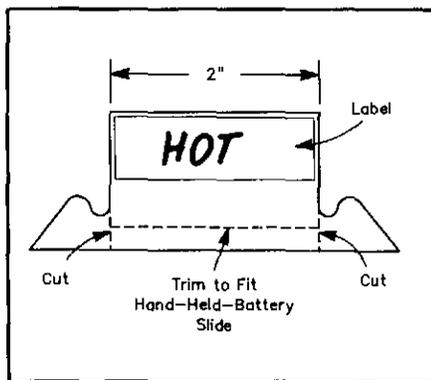

Fig 4—Greg Lane replaced his battery-protection plate with a hanging-folder tab modified as shown here. The slide-in label indicates state of charge.
□ If you're tired of looking for the slide-in plastic plate for your extra hand-held batteries, try the replacement shown in Fig 4. Made from a 2-inch Pendaflex folder tab, it protects the battery terminals against short circuits *and* allows you to slide in a label indicating the battery's state of charge. My label says *HOT* on one side and *RECHARGE* on the other.—*Greg Lane, K7SDW, 3970 Coronado Cir, Newbury Pk, CA 91320.*